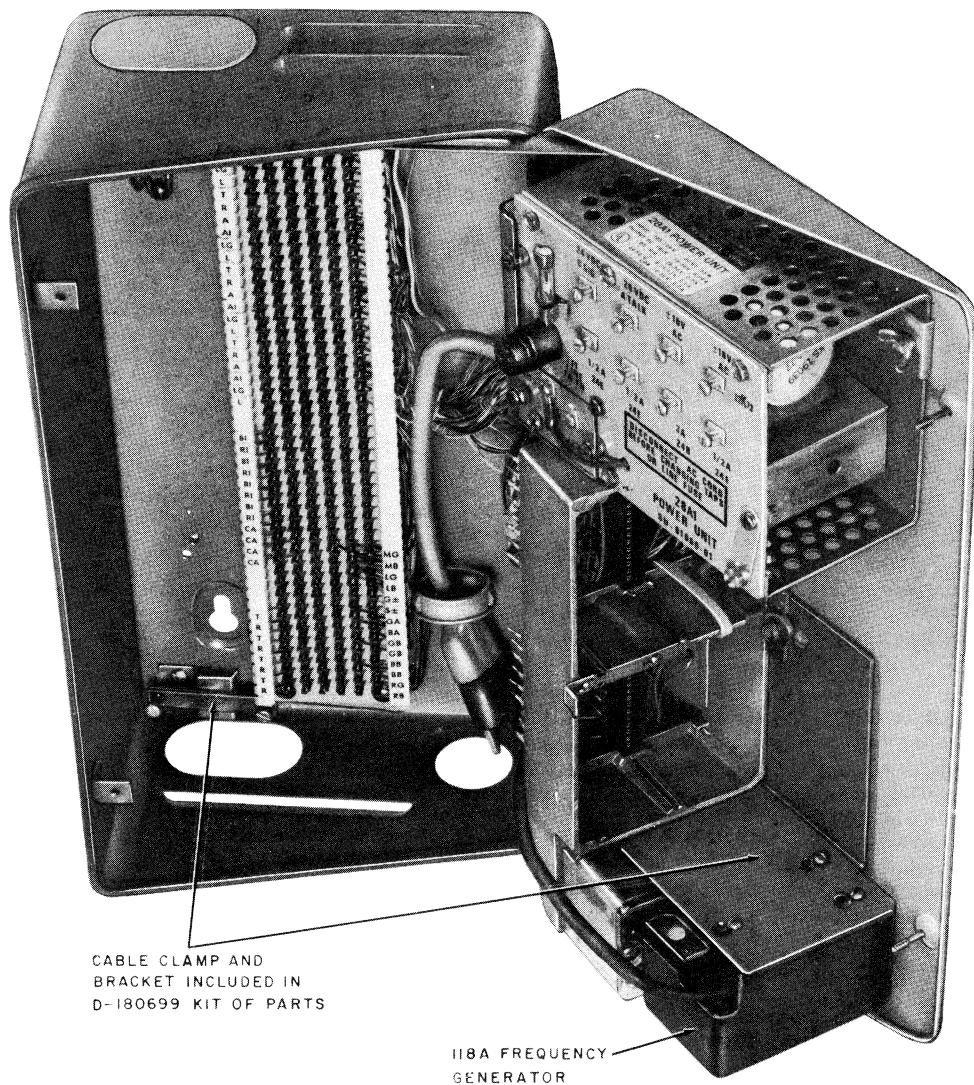

Fig. 2—551B KSU (MD) With 118A Frequency Generator Installed
- (b) To mount a 118A frequency generator on a 550/551B KSU, first install D-180699 Kit of Parts. Remove the cable clamp provided with the KSU and replace it with the one in the kit. Mount the bracket on the door of the KSU as shown in Fig. 2. Attach the frequency generator to the bracket with the three screws supplied with the generator. Connect the feed-through type plug to the external ac power cord and, if the KSU is a 551B, to the power unit cord [see paragraph 3.03(b) for instructions on positioning the grommet].